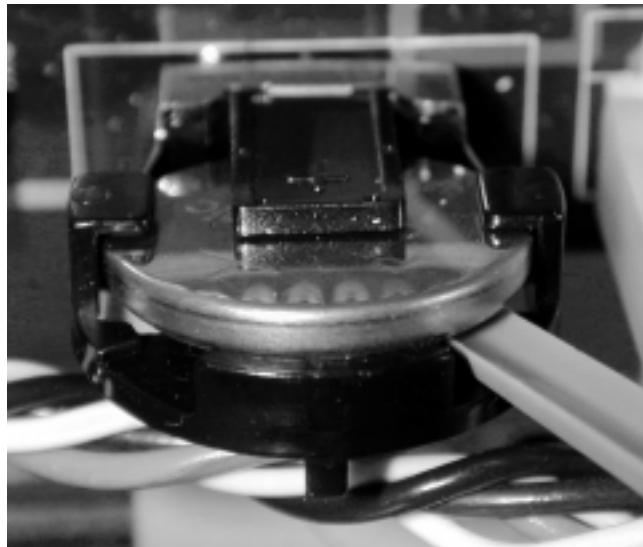

Figure 5-1 Freeing battery from retaining clip
2. Insert your fingernail, a plastic knife, or a pen cap in one of the slots on the top of the battery's retaining clip and gently pry the battery loose from the retaining clip, as shown in Figure 5-1.